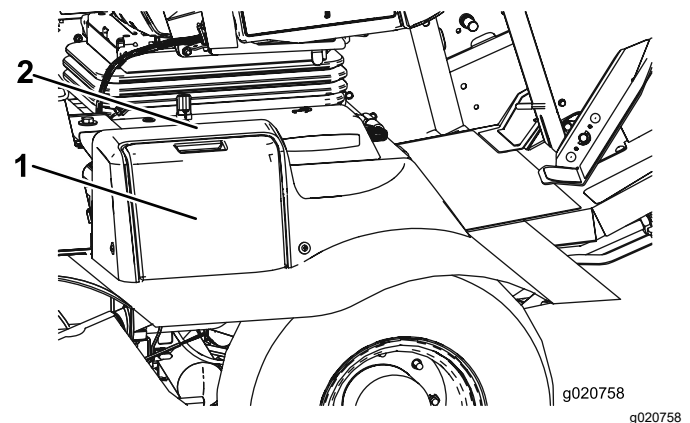

Figure 94
1. Open the battery cover on the side of the shroud (Figure 94).
Note: Press down on the flat surface above the battery cover to ease the removal of the cover (Figure 94).